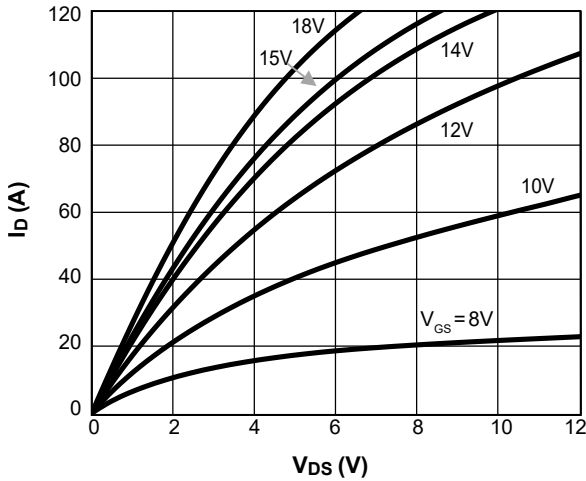

Figure 1. On-Region Characteristics  $T_J = 25\text{ }^\circ\text{C}$
- H. The static characteristics in Figures 1 to 8 are obtained using <300ms pulses, duty cycle 0.5% max.